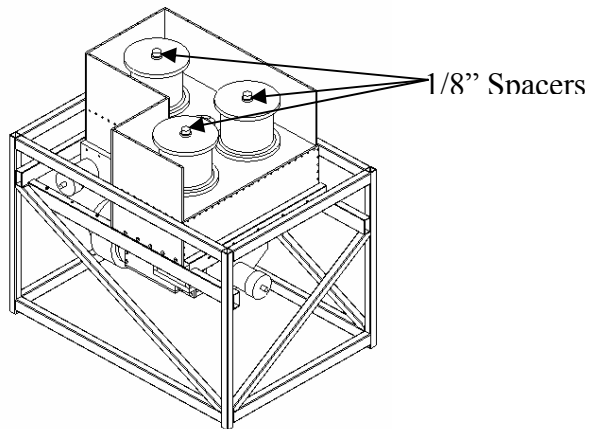

Figure 5
5. Place the 1/8" thick spacers on top of the spools before placing the top plate on the system, see figure 5.